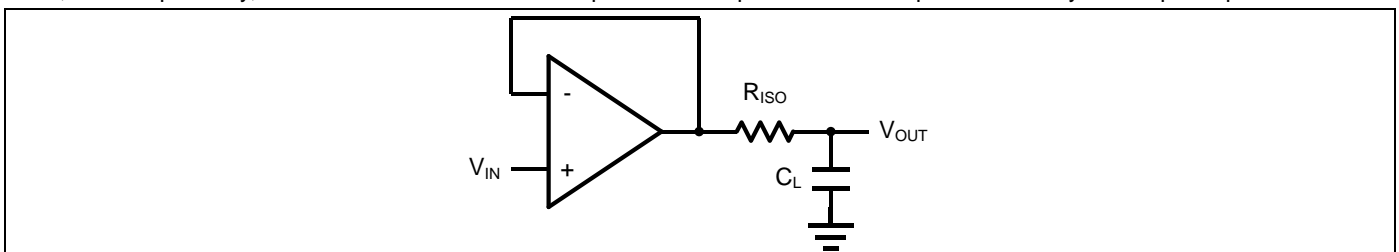
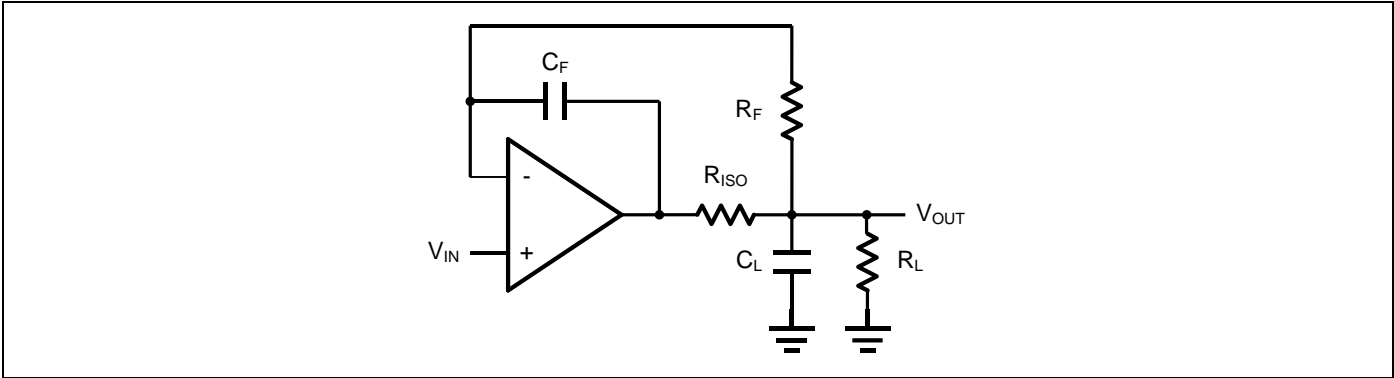

Figure 2 Indirectly Driving a Capacitive Load Using Isolation Resistor
Figure 3. Indirectly Driving a Capacitive Load with DC Accuracy
The MA600X family is optimized for bandwidth and speed, not for driving capacitive loads. Output capacitance will create a pole in the amplifier's feedback path, leading to excessive peaking and potential oscillation. If dealing with load capacitance is a requirement of the application, the two strategies to consider are (1) using a small resistor in series with the amplifier's output and the load capacitance and (2) reducing the bandwidth of the amplifier's feedback loop by increasing the overall noise gain. Figure 2 shows a unity gain follower using the series resistor strategy. The resistor isolates the output from the capacitance and, more importantly, creates a zero in the feedback path that compensates for the pole created by the output capacitance.
The circuit in Figure 3 is an improvement to the one in Figure 2. R_F provides the DC accuracy by feed-forward the V_{IN} to R_L . C_F and R_{ISO} serve to counteract the loss of phase margin by feeding the high frequency component of the output signal back to the amplifier's inverting input, thereby preserving the phase margin in the overall feedback loop. Capacitive drive can be increased by increasing the value of C_F . This in turn will slow down the pulse response.